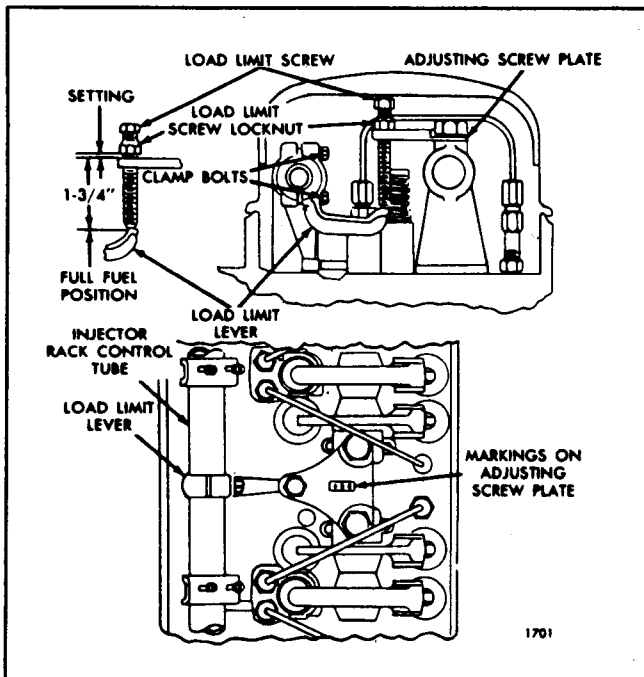

Fig. 1 - Engine Load Limit Device
Engines with mechanical governors may be equipped with a load limit device (Fig. 1) to reduce the maximum horsepower.
After the engine tune-up is completed, make sure the load limit devices are properly installed as shown in Fig. 1. Make sure the counterbores in the adjusting screw plates are up. The rocker arm shaft bracket bolts which fasten the adjusting screw plate to the brackets are tightened to 75-85 lb-ft torque (all other rocker arm shaft bracket bolts are tightened to 90-100 lb-ft torque). Then adjust the load limit device, on each cylinder head, as follows:
3. With the screw out of the plate, adjust the load screw lock nut so the bottom of the lock nut is 1 3/4" from the bottom of the load limit screw (Fig. 1) for the initial setting.